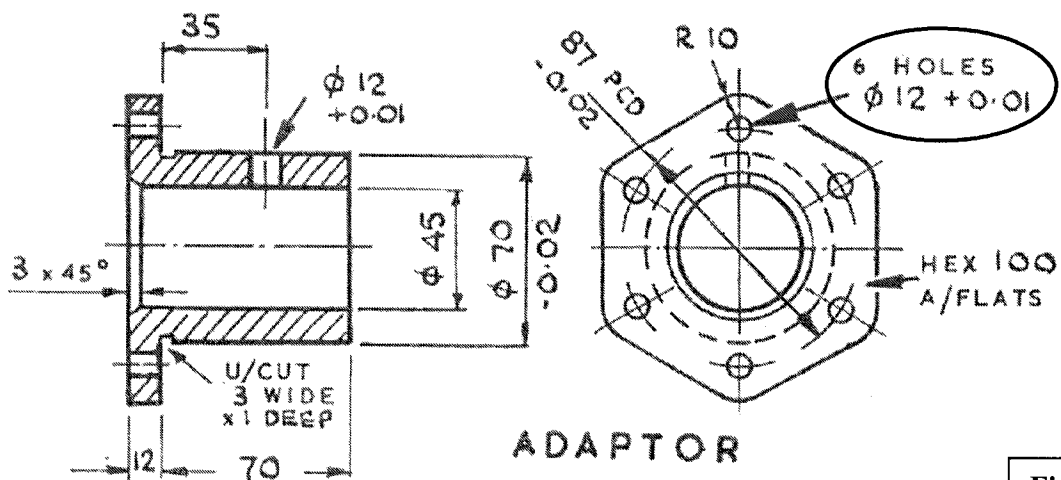

Fig. 1
1. Design a drill jig for use when *drilling* and *reaming* the $\varnothing 12$ six holes in the flange of the Adaptor shown in Fig.1. The Adaptor is complete except for these holes.